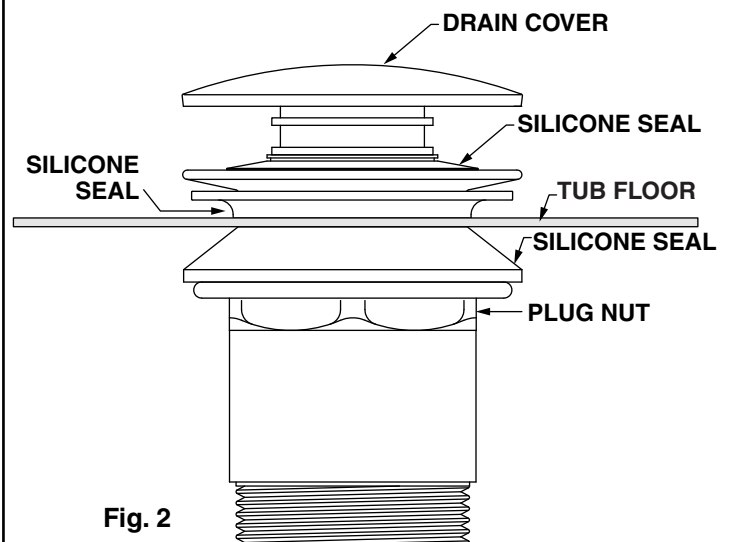

Fig. 2
- 2** Install drain as shown in Fig. 2.
3 Tighten drain nut using a pipe wrench and plug wrench. Make sure all of the silicone seals are in the proper location (as shown in Fig. 2) and there is no water leaking.